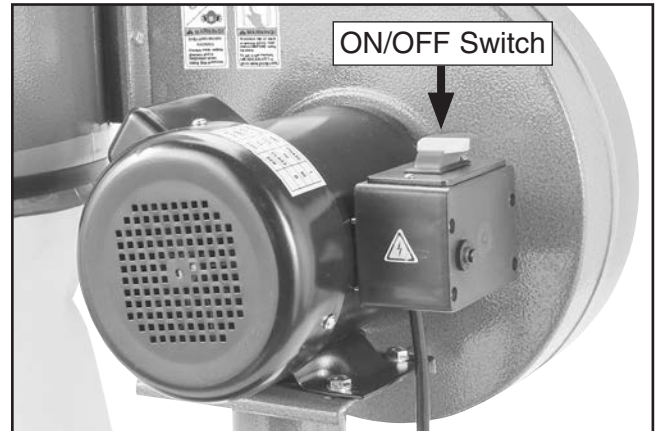

Figure 22. Location of ON/OFF switch.
4. Use ON/OFF switch to turn machine **ON** (see **Figure 22**), verify motor operation, and then turn machine **OFF**.